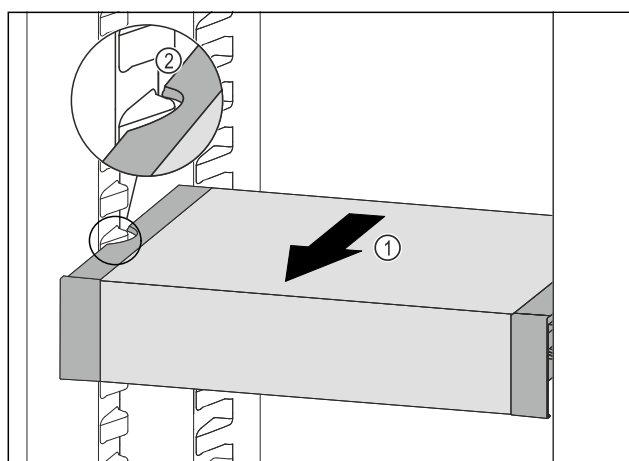

Fig. 108
- Pull VarioSafe forwards *Fig. 108 (1)* until the recesses in the side of the VarioSafe are at the level of the support rib in the fridge section. *Fig. 108 (2)*